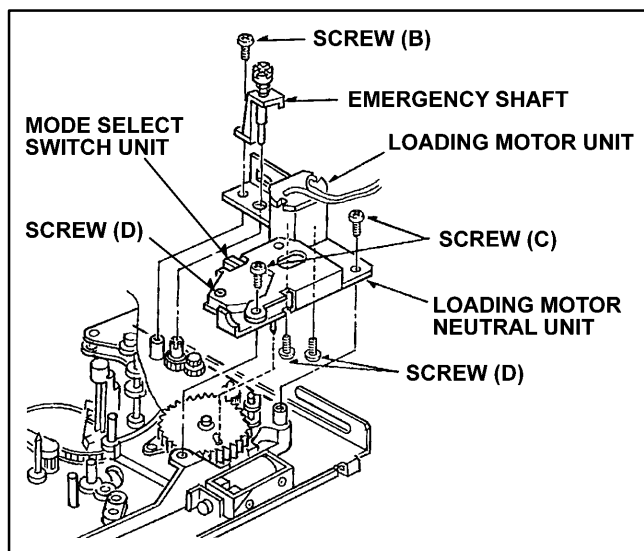

Figure 1-14
1. Disconnect the **connector (A)** on the **P.C.Board (B)**.
2. Remove the Pinch Solenoid Unit and Loading Motor Unit. (Refer to item 1-10 and 1-13.)
3. Remove the screw (D) and remove the Mode Select Switch Unit from Loading Motor Unit as shown in Figure 1-14.